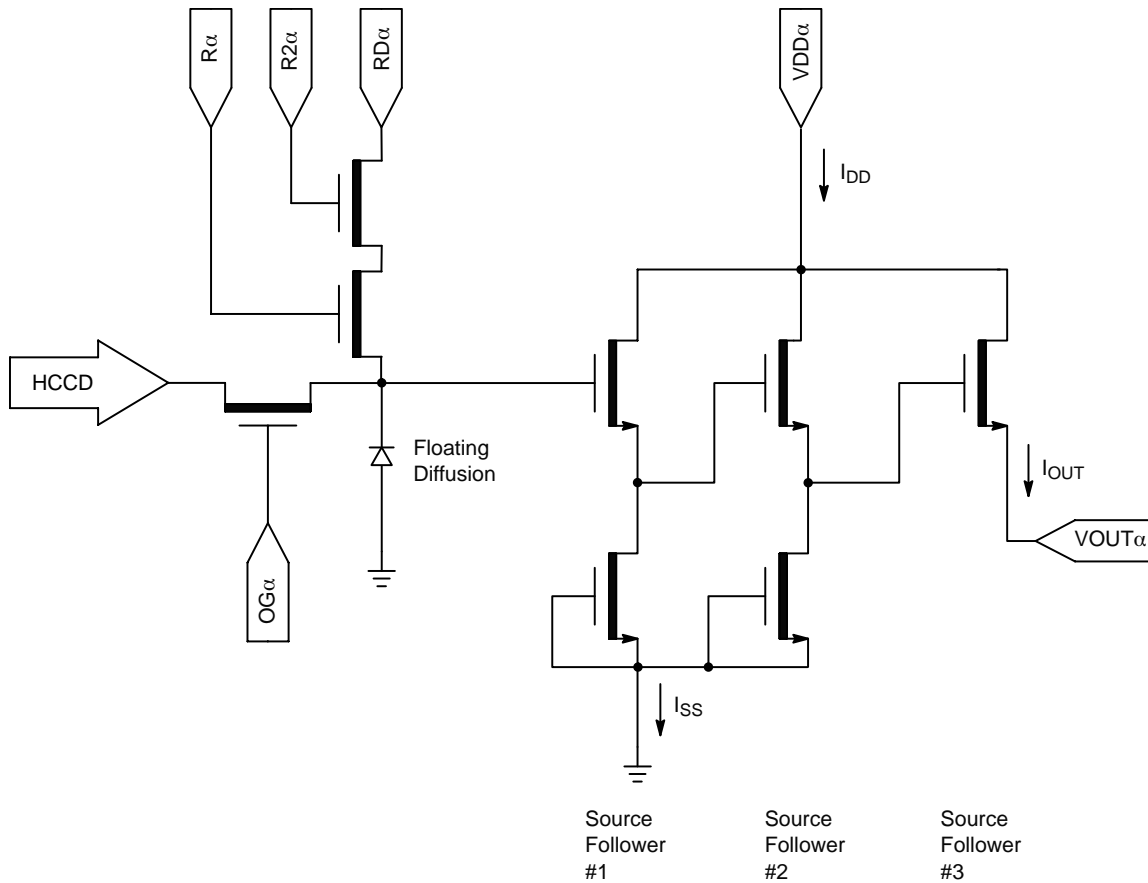

Figure 27. Output Amplifier
2. The maximum DC current is for one output. $I_{DD} = I_{OUT} + I_{SS}$. See Figure 27.